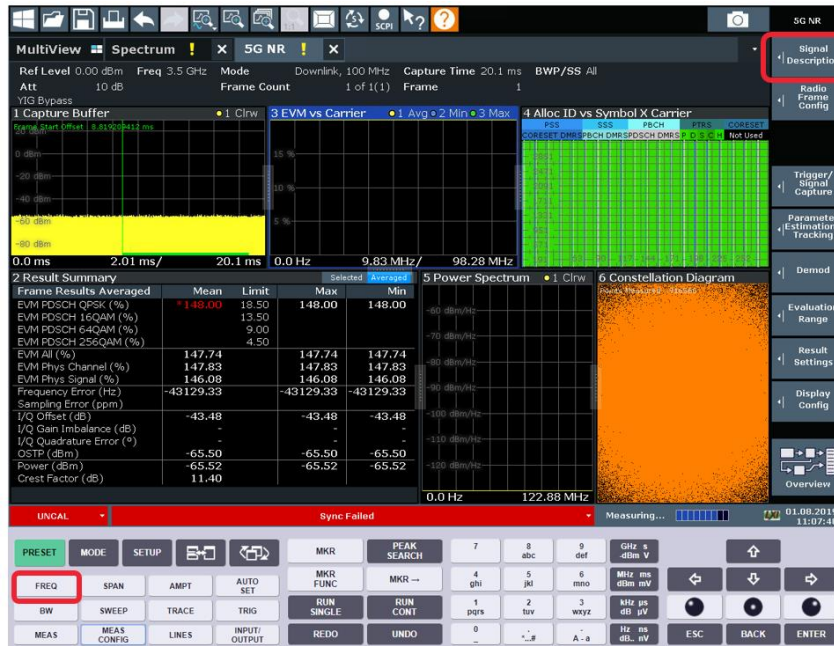

Fig. 2-29: 5G NR measurement Mode on the FSW
- Set Frequency: 3.5 GHz as shown in Fig. 2-29